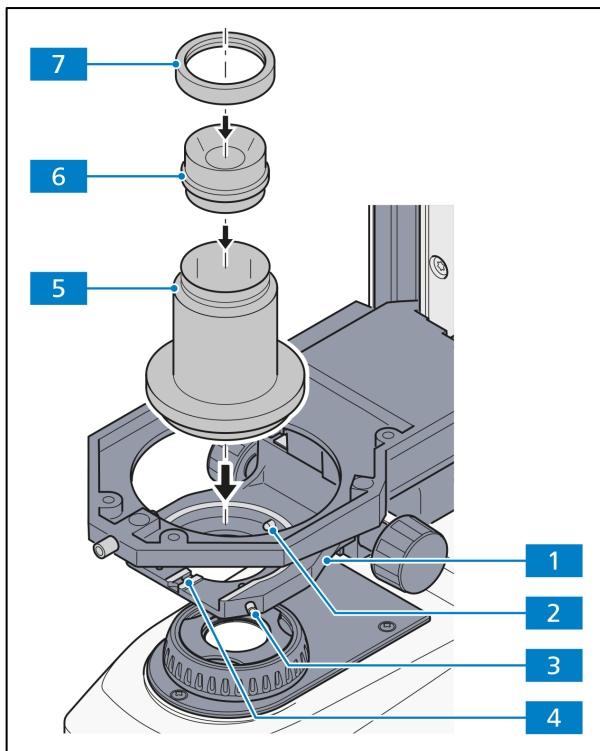

Fig. 3-23 Mounting the darkfield condenser
- Insert the darkfield condenser (Fig. 3-23/6) in the condenser holder Z (Fig. 3-23/5) and screw on the fastening ring (Fig. 3-23/7).
- Push the condenser holder Z (Fig. 3-23/5) against the spring box (Fig. 3-23/2) into the condenser carrier (Fig. 3-23/1).
- Tighten both centering screws (Fig. 3-23/3) on the condenser carrier (Fig. 3-23/1) until they grip the dovetail ring of the condenser holder Z (Fig. 3-23/5).